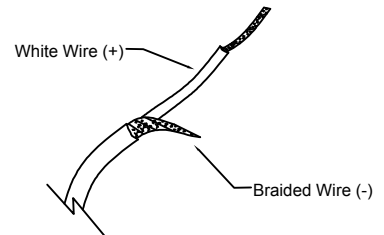

FIGURE-04
- Strip the White Wire by 1/2" as well as to the Braided Wire. See FIGURE-04.